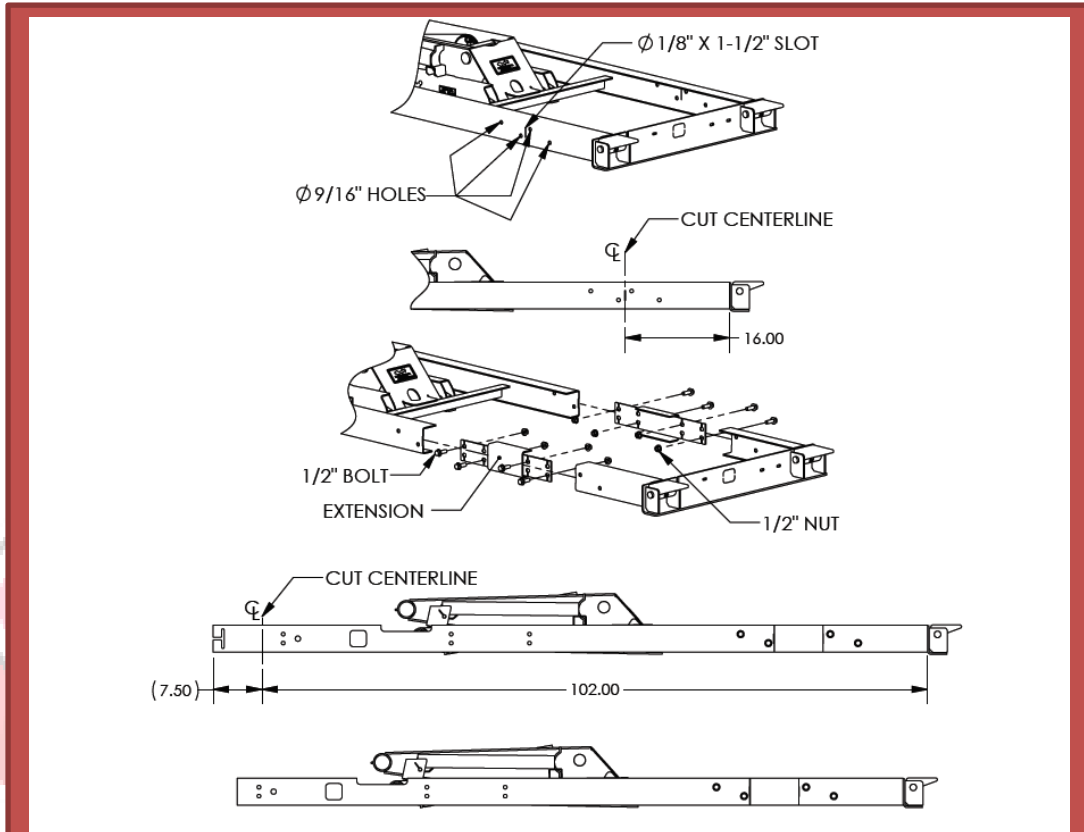

Figure 18: 45° Sub-frame Modification
3. Cut through the left and right sub-frame channels at the cut centerline as shown in **Figure 18**.